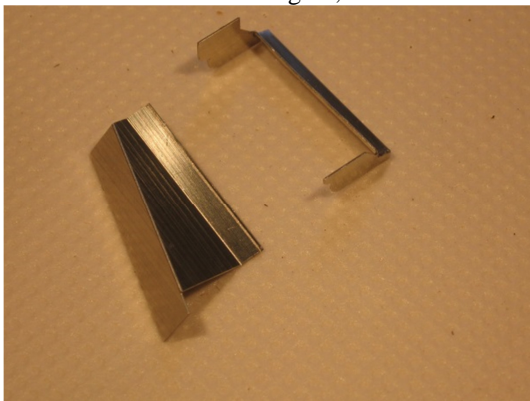

*Fig. 42*
69. Again, check the fit with the assembly tool. Fig 42